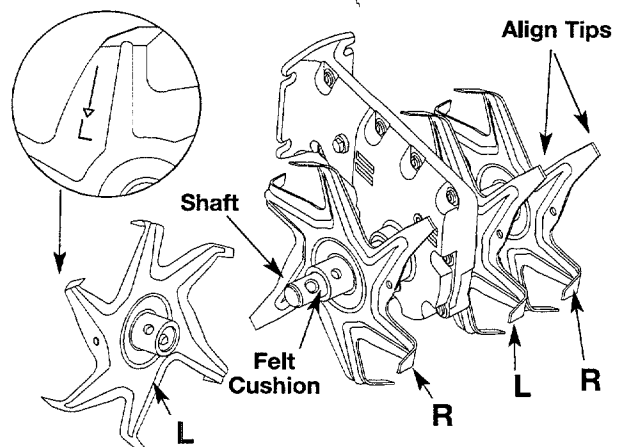

Figure 28
7. Ensure the tips on tines are aligned in the same direction with each other before reinstalling the clevis pins and pin clips. See Figure 28.